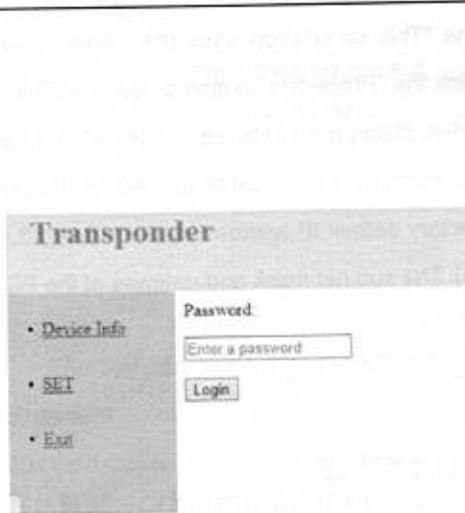
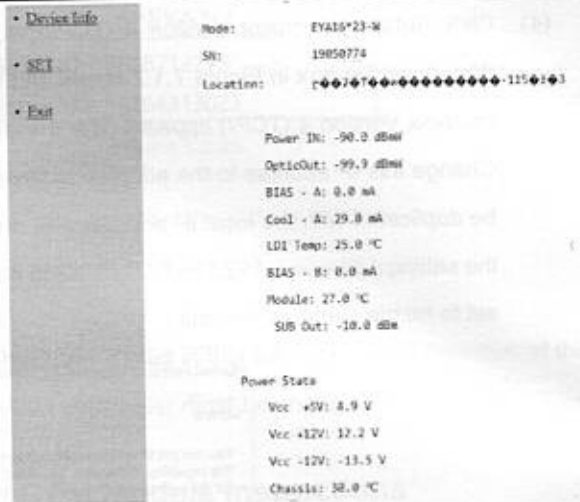
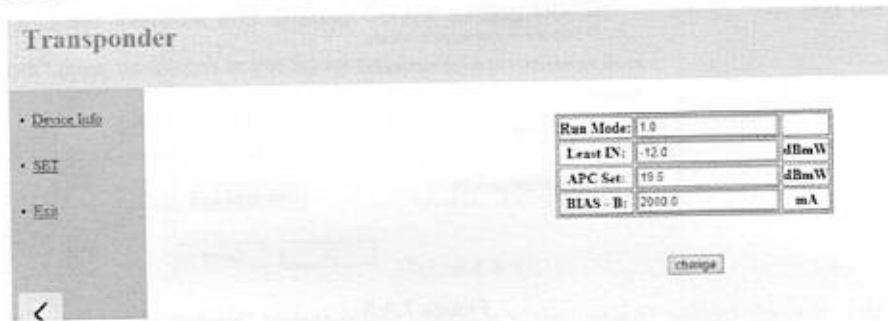

Figure 7.1.7
Figure 7.1.8
Figure 7.1.9
- (7) In the 7.1.6 interface, enter the device's local IP address in the web address bar and press Enter. The dialog box shown in Figure 7.1.7 appears (if the dialog box is not displayed, press F5 on the keyboard to refresh the page and try again), then enter After the password "public", click "Login" to view the device parameters, as shown in Figure 7.1.8:
Click "SET" in the menu bar on the left side of Figure 7.1.8, and the related items will appear. You can adjust the parameters of the equipment through the computer. (If you need to adjust the equipment parameters, please be sure to do it under the guidance of professionals.) . As shown in Figure 7.1.9: